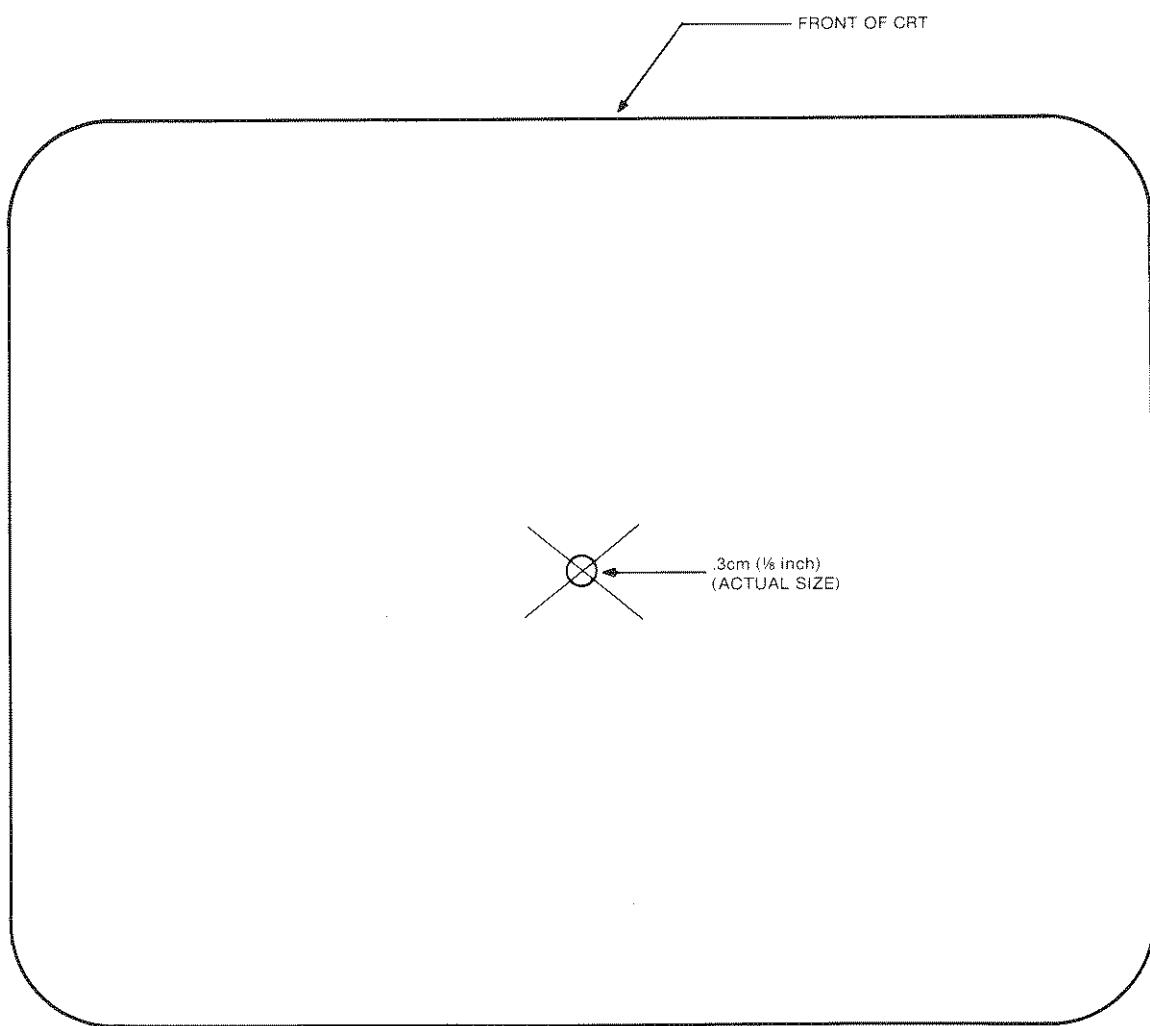

Figure 10-2. Yoke Centering Adjustment.
5. While holding a flexible straight edge from the lower-left corner to the upper-right corner of the CRT (facing the CRT), make a mark about one inch long with a water soluble felt pen across the center of the CRT (figure 10-2).
6. Repeat the above step for the upper-left corner and the lower-right corner forming an "X" in the center of the CRT (figure 10-2).
10. The dot should appear within a 0.3 cm (1/8 inch) radius of the intersection of the two lines. If this does not occur, align the dot using the centering rings on the yoke. See figure 10-2.